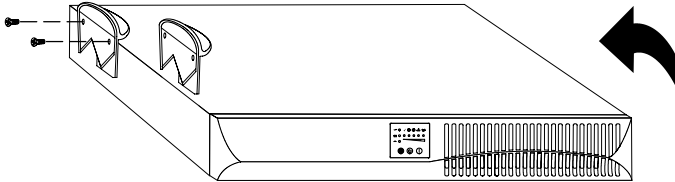

Figure 9. Installing UPS Pedestals (for Two Cabinets)
- 6. Place the UPS cabinet horizontally so that the left end of the cabinet is accessible (see Figure 9).